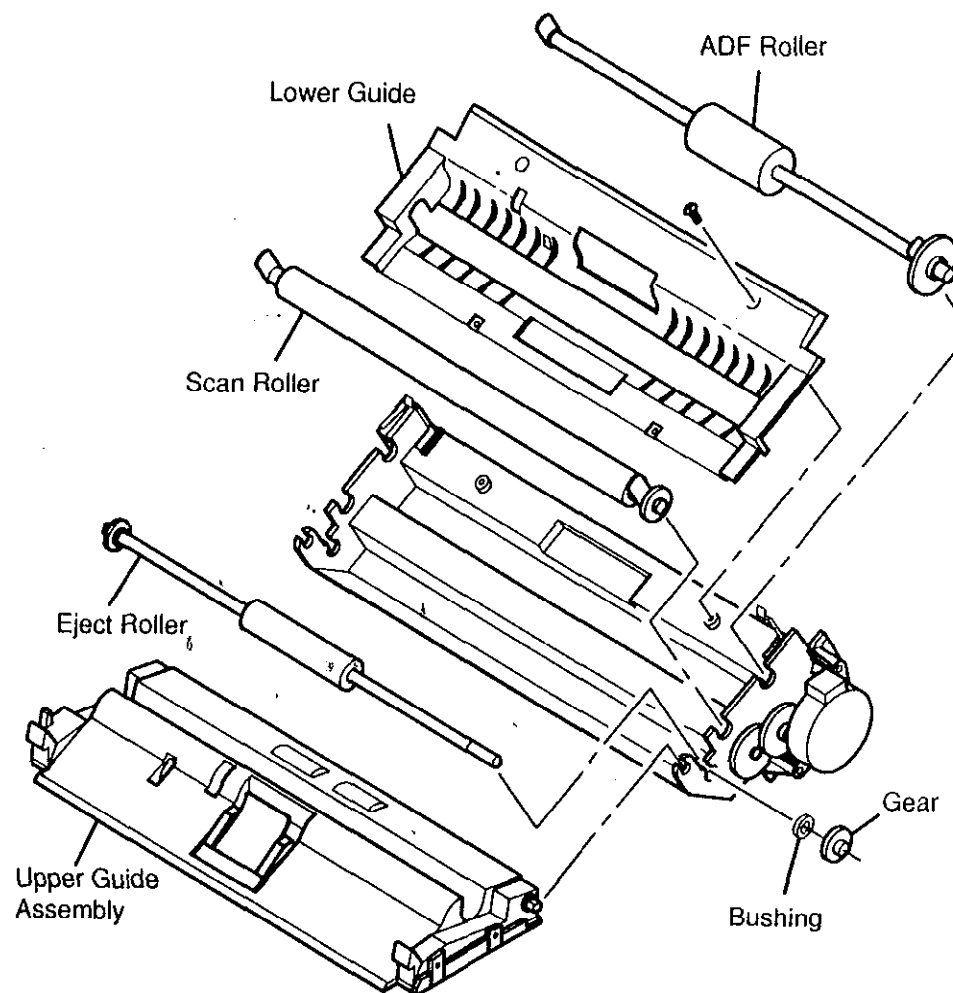

Figure 1 Removing the ADF, Scan and Eject Rollers
- b. Remove the four (4) mounting screws.
3. Remove the Eject Roller (Figure 1).